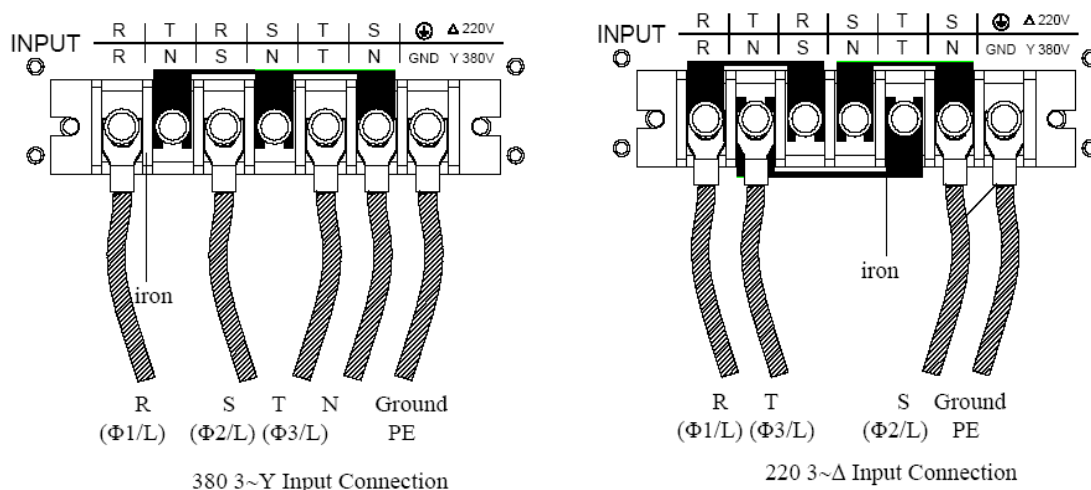

Figure 3-1 Connecting AC INPUT Wires for 62000B-6-1
- (1) The input connector is located at the right side of the rear panel.
- (2) The power cord must be at least 85°C rated.
- (3) The thickness of power cord must be between 12AWG to 10AWG.
- (4) See Figure 3-1 and follow the steps below for the assembly: